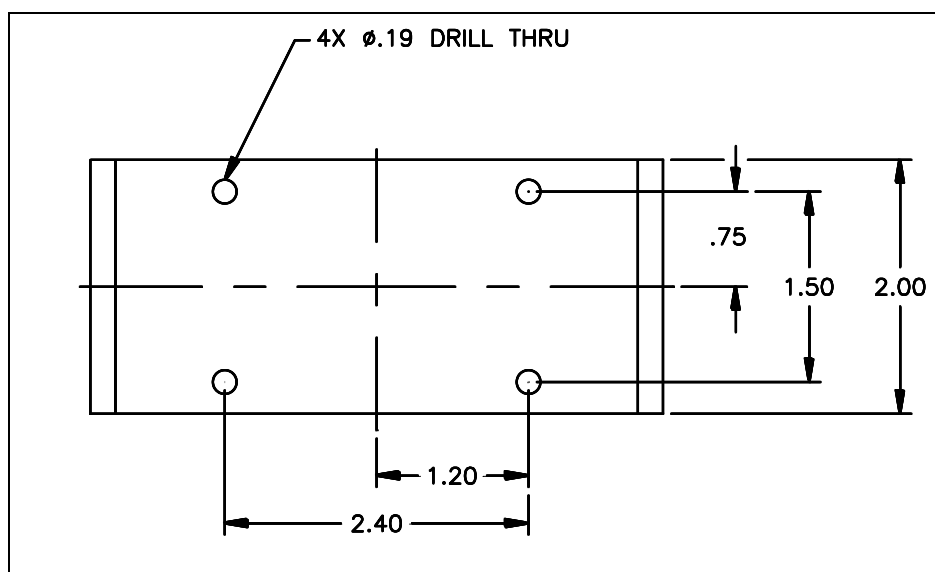

Figure 3-1 Mounting Bracket Hole Pattern
Figure 3-1 Mounting Bracket Hole Pattern	8
1. Refer to the mounting bracket hole pattern shown in Figure 3-1 and drill four 0.191 in (0.48 cm) diameter holes.